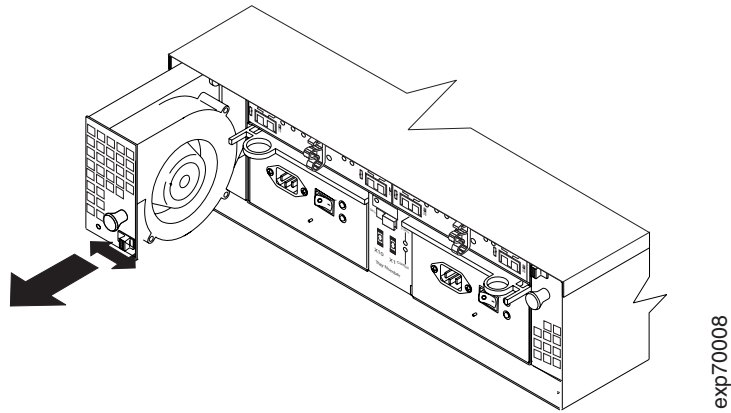

Figure 62. Replacing a hot-swap cooling fan
- b. Use the handle (black knob) to pull the fan from the fan bay as shown in Figure 62 on page 83.
The open side of the fan CRU faces the power supply and ESM CRUs. If the fan does not go into the bay, rotate it 180°. (See Figure 62.)